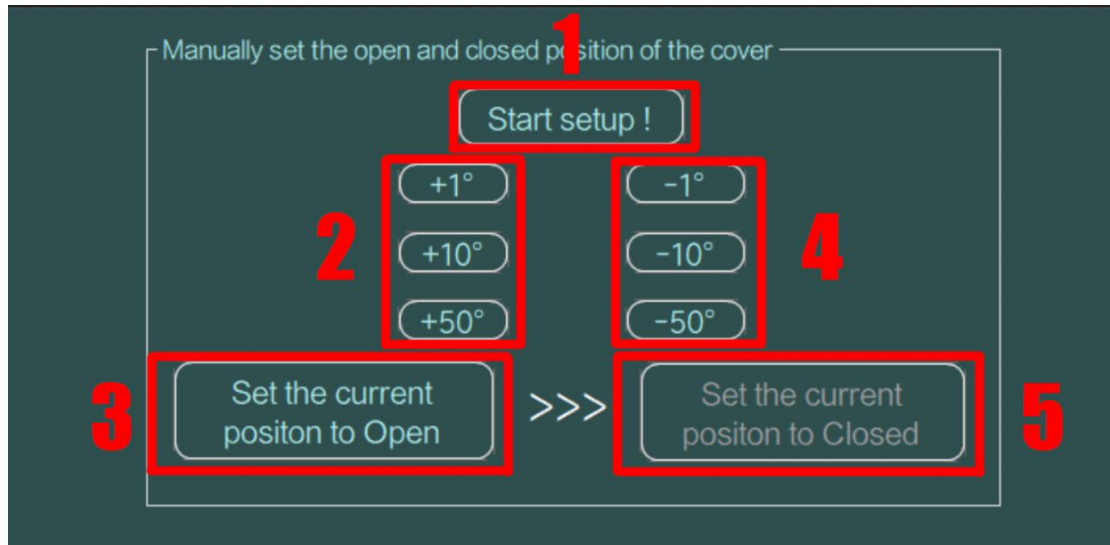

Figure2
After the connection is successful, (1) Click "Start Setup!" to set the opening position of the cover. (2) Move the cover to desired open position by clicking the "+1°", "+10°" and "+50°" control button. (3) Click "Set current position to open" to confirm. (4) Click the "-1°", "-10°" and "-50°" control button to move the cover to desired closed position. (5) Click "Set current position to off" to confirm. (Figure 2)